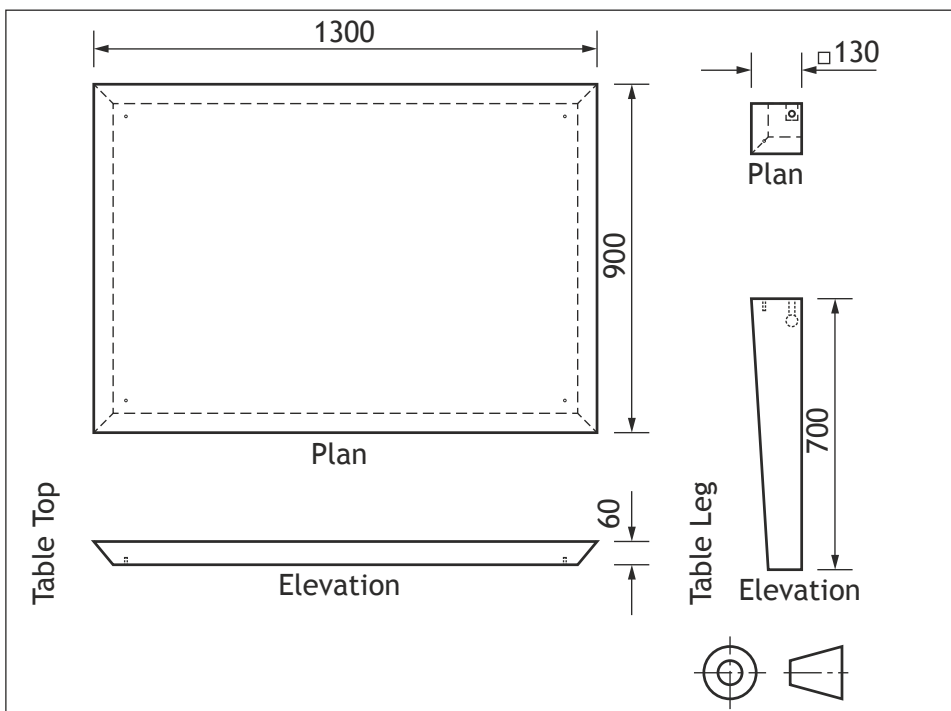

Figure 1
The component drawing of the table top and legs, in Figure 1, are drawn to a scale.
- (a) Measure and calculate the scale used for Figure 1.